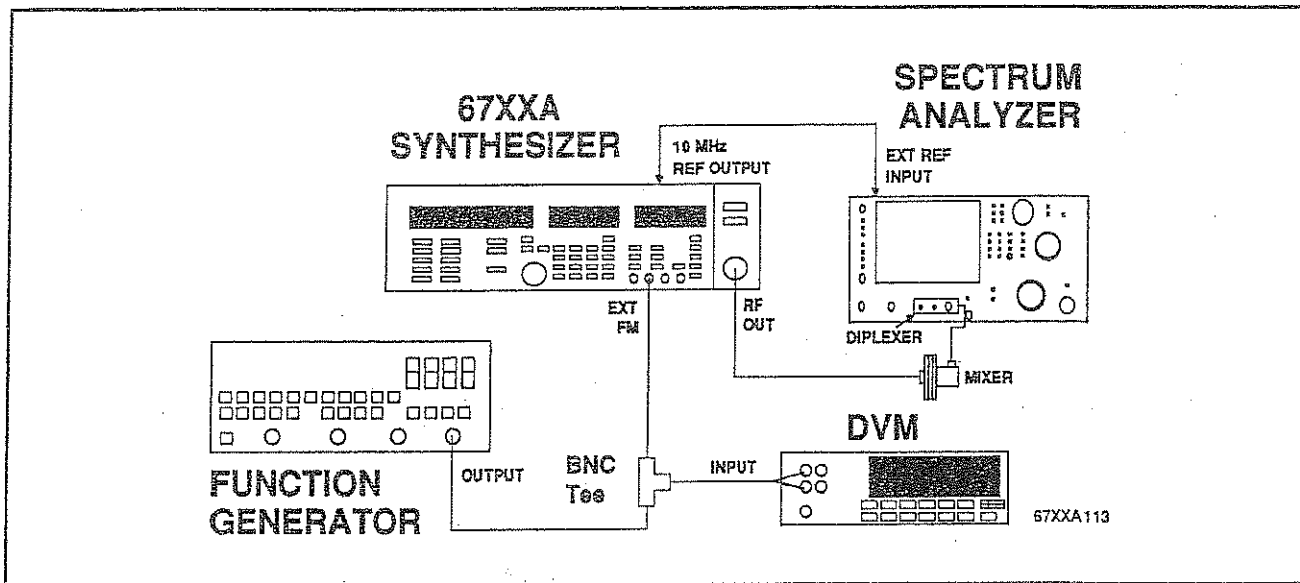

Figure 3-19. Test Equipment Setup for FM Flatness Calibration (20 to 40 GHz)
1. Connect the equipment as shown in Figure 3-19 (see following page).